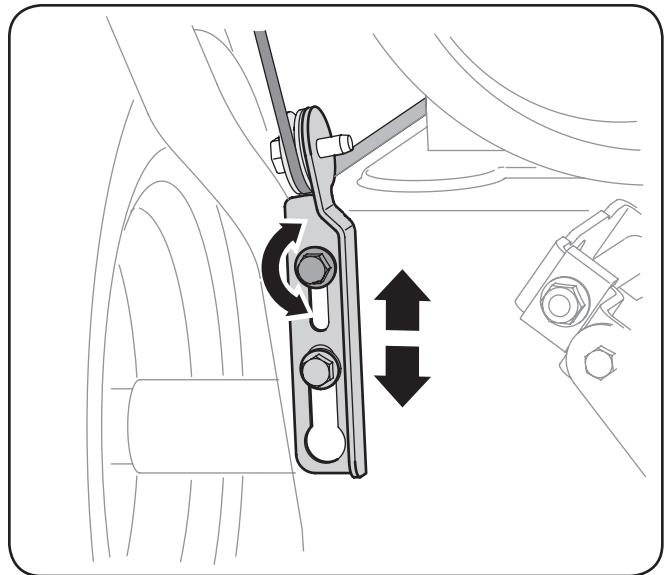

Figure 3-24
4. Allow the auger to remain engaged for approximately ten (10) seconds before releasing the auger control. Repeat this several times.
8. Position the bracket upward to provide more slack (or downward to increase cable tension). See Figure 3-24.